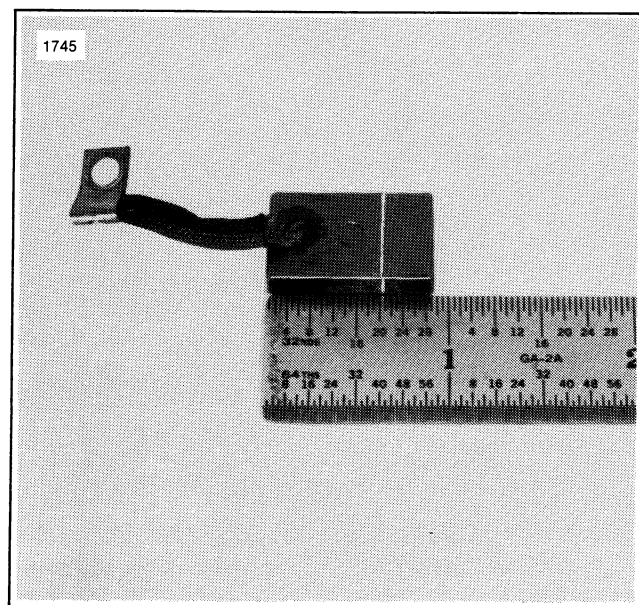

Figure 8-30. Measuring Brush Length
2. Check brush length (Figure 8-30). If any brush is worn to its minimum length when measured at its shortest point, new brushes are needed. Replace brushes in sets of four only.